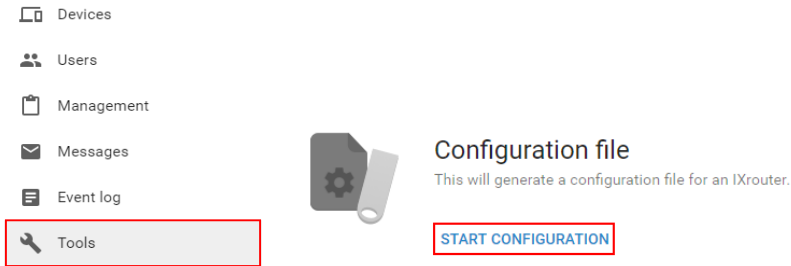

Figure 5.32
2. Click on “Start Configuration” under Configuration file (Figure 5.32).